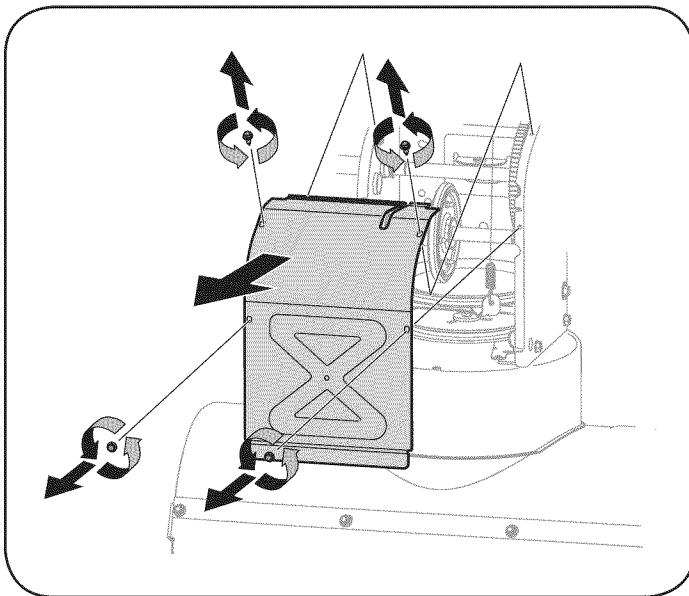

Figure 29
5. Remove the frame cover from the underside of the snow thrower by removing four self-tapping screws which secure it. See Figure 29.
- Remove the frame cover from the underside of the snow thrower by removing four self-tapping screws which secure it. Refer to Figure 29.